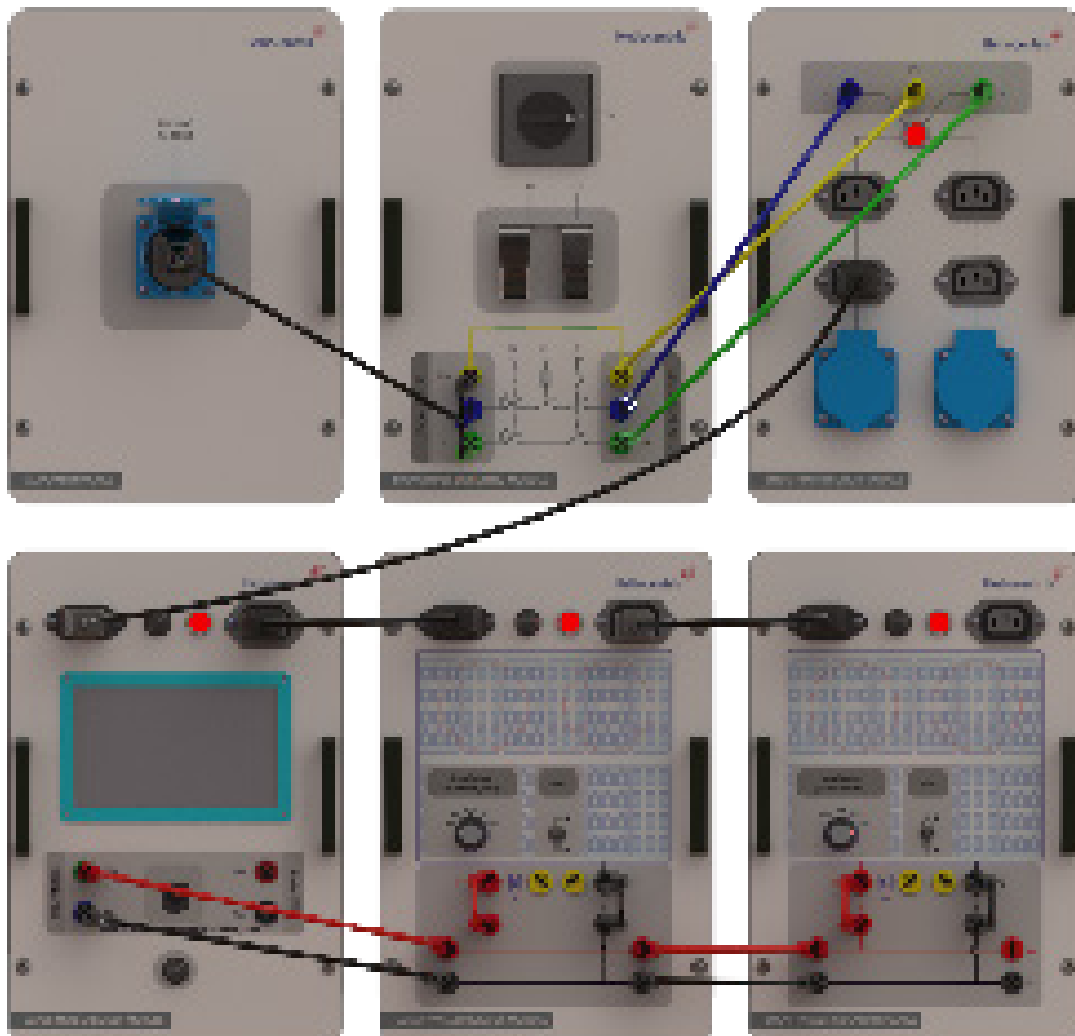

Figure-4
- 15) Connect as shown in figure-4 to examine the parallel connection of photovoltaic panels. Set the selector switches on both modules to A.